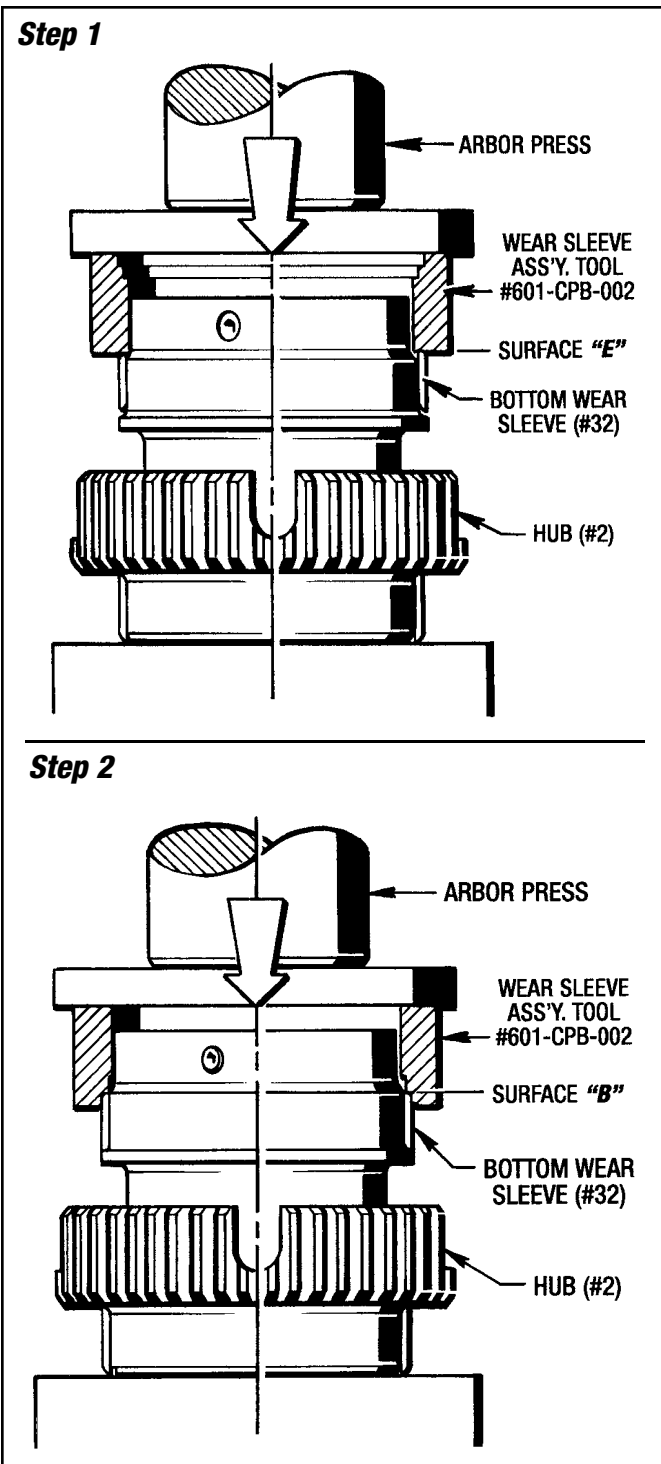

Figure 9.3 - Installing Bottom Wear Sleeve (#32)
2. With an arbor press and the Wear Sleeve Assembly Tool, install the bottom Wear Sleeve (#32) on to the Hub (#2) as shown in *Figure 9.3*.
Step 1 - Using surface "E", press the Wear Sleeve (#32) down on the Hub (#2) as far as it will go. (See *Figure 9.3*.)
Step 2 - Turn the Wear Sleeve Assembly Tool over and with surface "B" finish pressing the Wear Sleeve (#32) down until it is completely seated on the Hub (#2). (See *Figure 9.3*.) **Clean off any excess Loctite.**